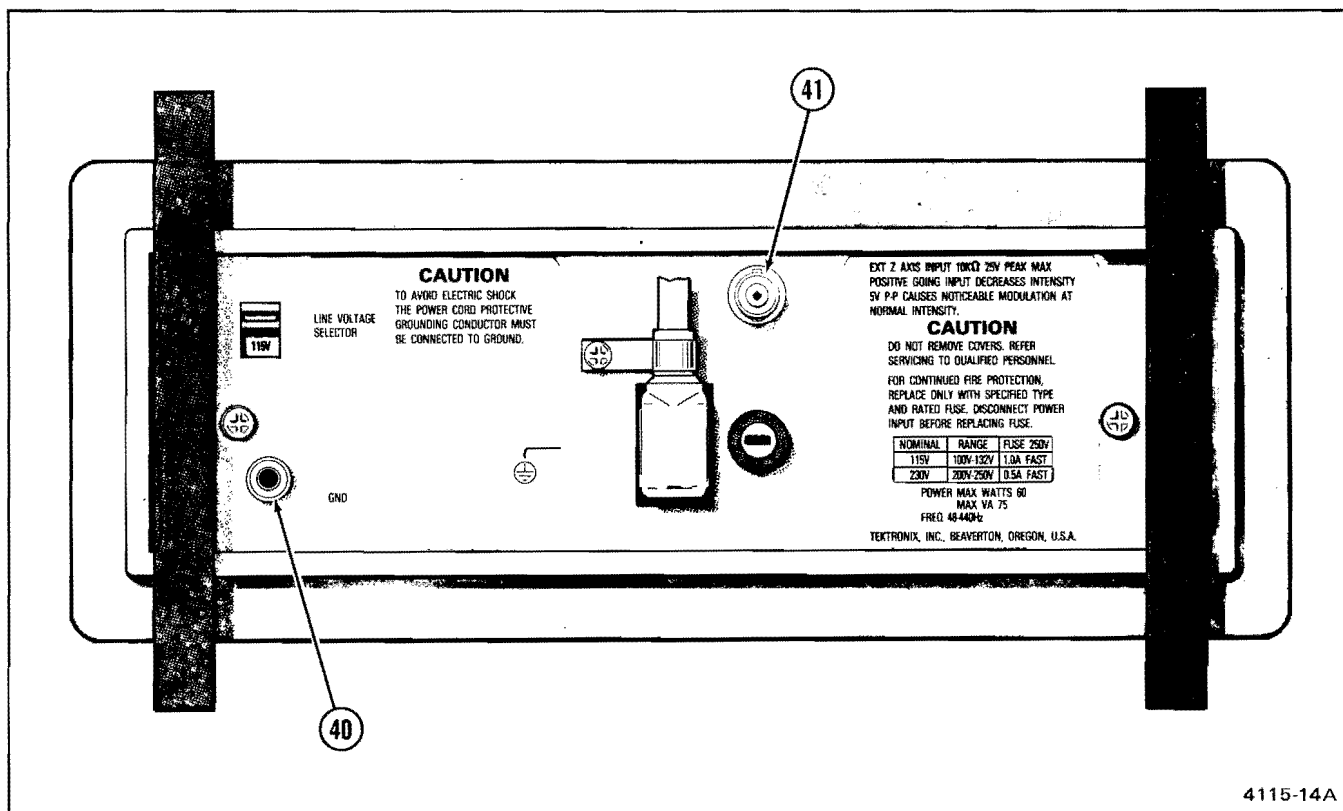

Figure 2-8. Rear-panel connectors.
Refer to Figure 2-8 for location of items 40 and 41.